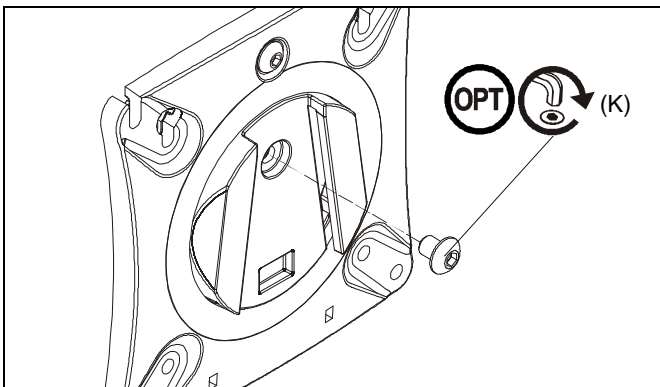

Figure 18
NOTE: (Optional) Rotational adjustment may be locked by installing rotational locking screw (K) into back of faceplate. (See Figure 18)